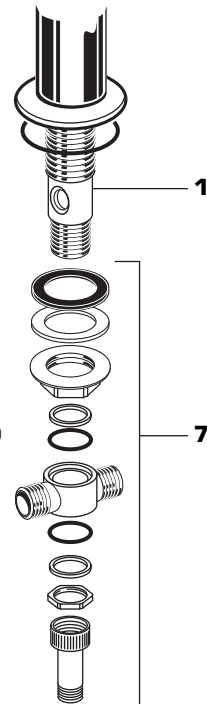
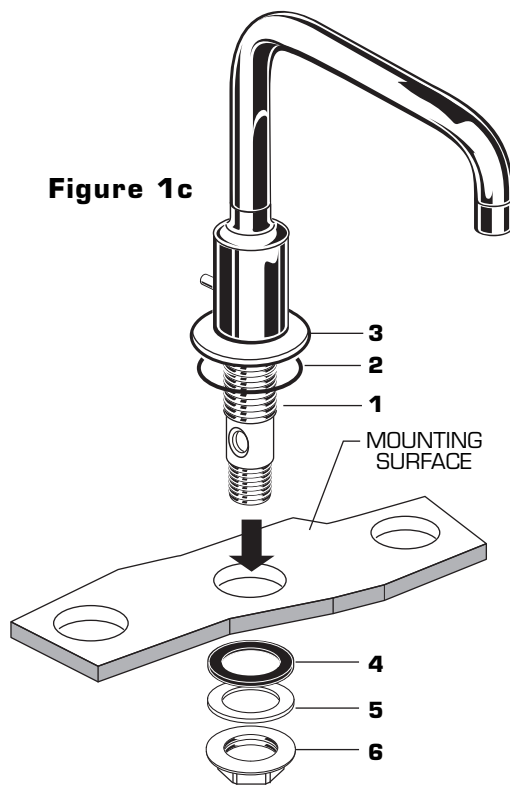

Figure 1b
Figure 1c
- Remove the MOUNTING AND TEE ASSEMBLIES (7) from SPOUT SHANK (1). **Figure 1b.**
- Install O-RING (2) into SPOUT ESCUTCHEON BASE (3). Insert SPOUT SHANK (1) through center mounting hole on tub or mounting surface.
- Assemble RUBBER WASHER (4), FIBER WASHER (5) and LOCKNUT (6) onto threads of SPOUT SHANK (1) from underside of mounting surface. Align SPOUT and tighten LOCKNUT (6) to secure spout assembly. **Figure 1c.**